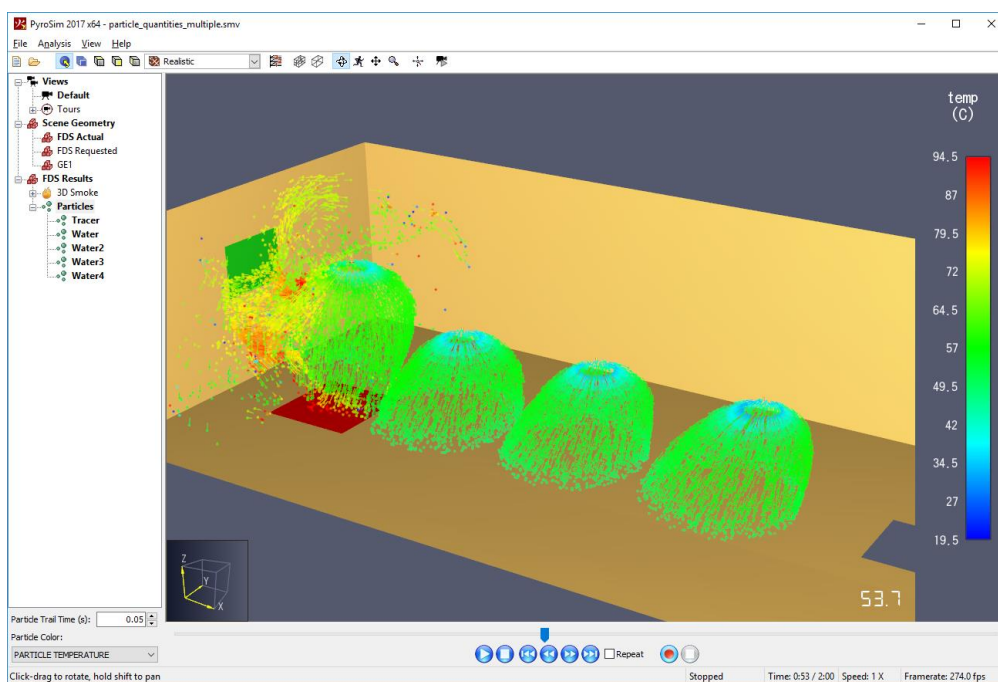

Figure 7-28: Particles colored by PARTICLE TEMPERATURE
- **Particle Color:** Controls the color of the particles. <Default> will color all the particles with a uniform color as specified in PyroSim or the FDS input file. Other values will cause a colorbar to appear and will color the particles individually according to their values. Figure 7-28 shows particles colored by their temperature.